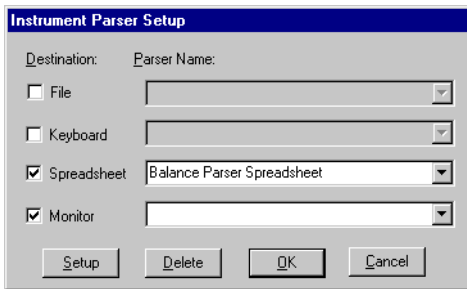
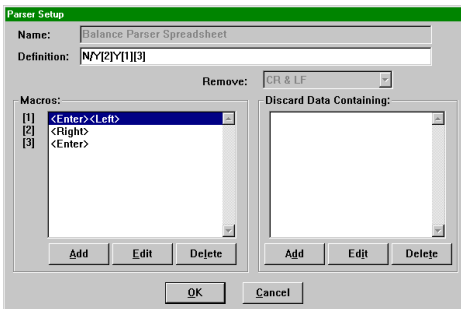

Figure 5.2: Instrument Parser Setup dialog box
Figure 5.3: Parser Setup dialog box
4. Click on the '*Parser*' button to set up a parser for the selected instrument. The [Instrument Parser Setup] dialog box will open, similar to the example shown in Figure 5.2 (see Page 45).
There are four possible destinations for incoming data; File; Spreadsheet; Keyboard; Monitor. Each is marked along the left side of the [Instrument Parser Setup] dialog box, seen in Figure 5.2.
Referring back to Figure 5.2 (see Page 45), a text box is located adjacent to each destination. Here is where the name of the Parser is entered.
With a Parser Name highlighted in the [Instrument Parser Setup] dialog box (see Figure 5.2, Page 45), click on the '*Setup*' button located along the bottom of the box. You will advance to the [Parser Setup] dialog box, similar to the example shown in Figure 5.3.
1. Make your Parser in stages. After each change you make to the Parser, save the new configuration by clicking on the '**OK**' button in the [Instrument Parser Setup] dialog box (see Figure 5.2, Page 45).
5. Return to the [Parser Setup] dialog box (see Figure 5.3, Page 46) to make more changes, if necessary.